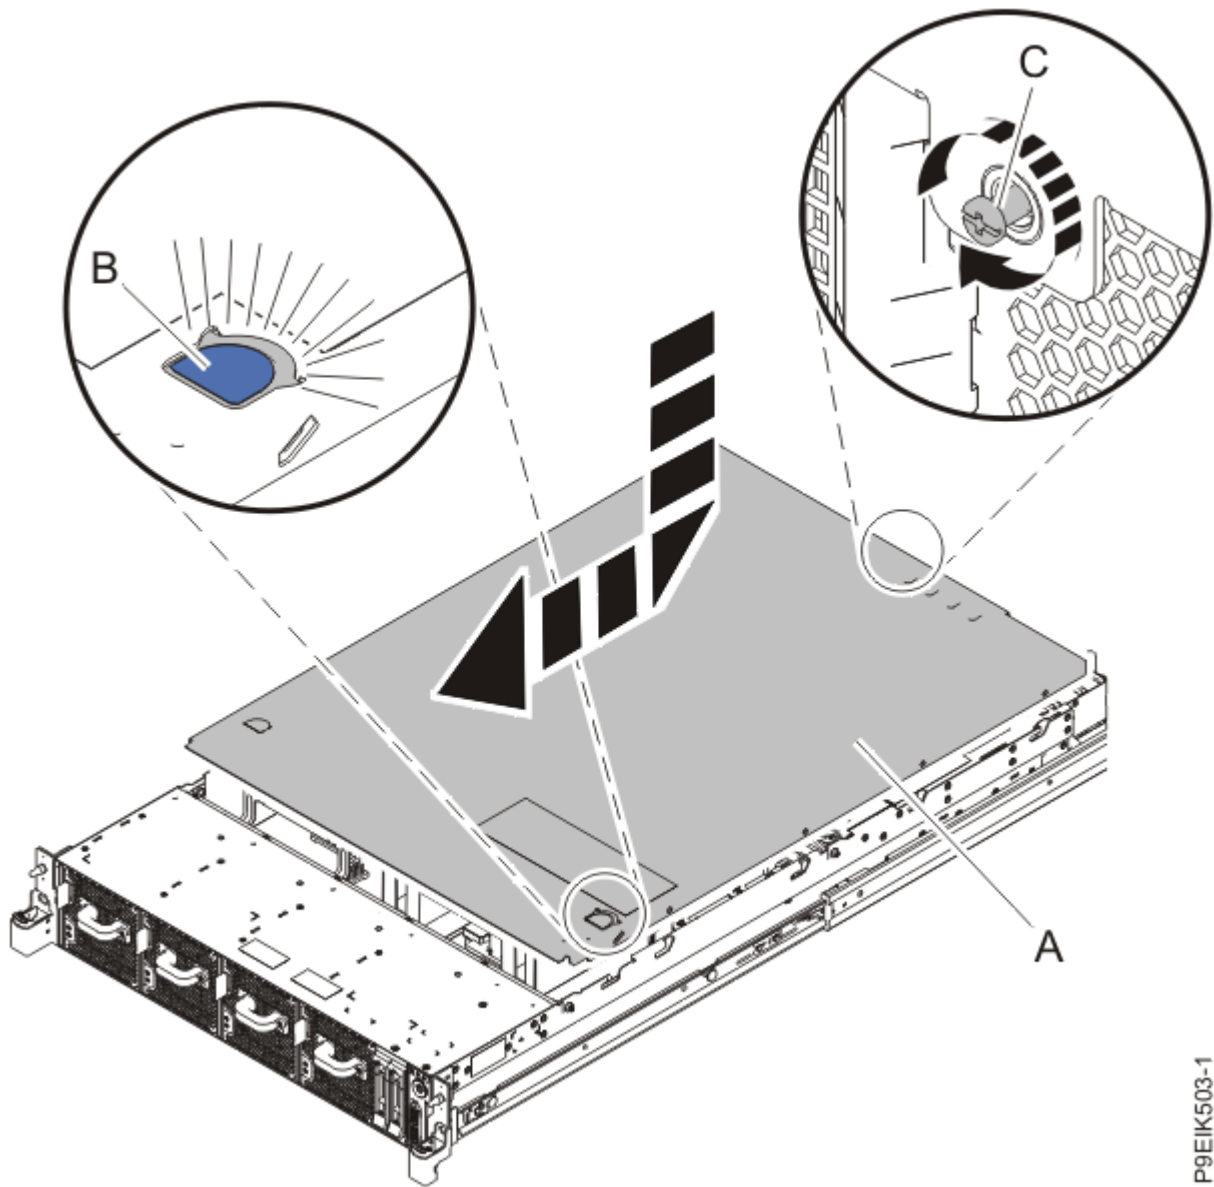

Figure 101. Installing the cover
1. Place the cover **(A)** on the system unit such that the alignment pins on the cover are aligned to the slots on the chassis. Slide the cover to the front of the system until the blue release latch **(B)** locks in to place as shown in Figure 101 on page 128.
2. Fasten the cover screw (C) at the rear of the cover.